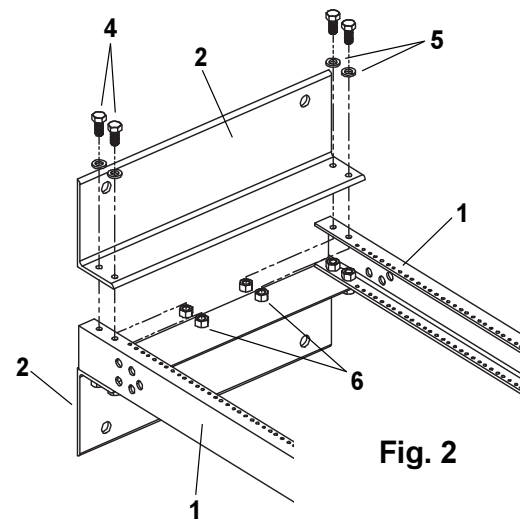

Fig. 2
STEP 2: Install base angles to vertical upright channels (see Fig. 2).